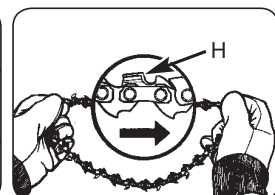

Fig. 3F
5. Spread chain out in a loop with cutting edges (A) pointing clockwise around loop (Fig. 3F).